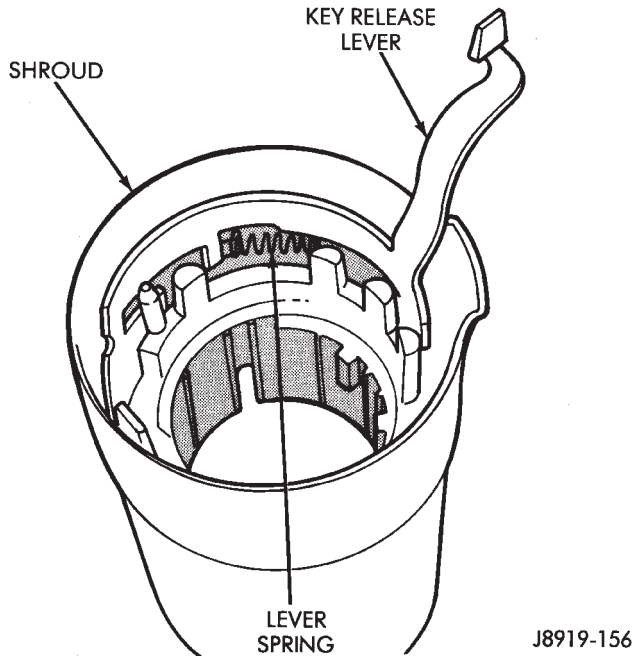

Fig. 20 Key-Release Lever & Spring Removal
(45) If equipped with a column shift:
(46) If equipped with a console shift, remove the key-release lever and the lever spring from the shroud. Tilt the lever forward and lift upward to remove it (Fig. 20).